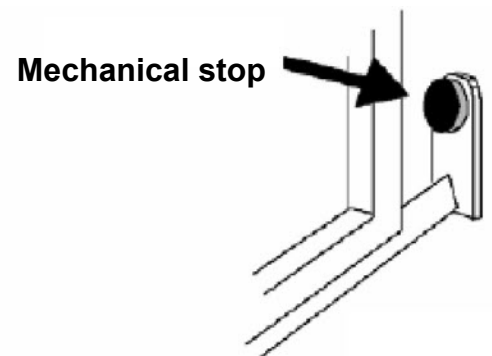
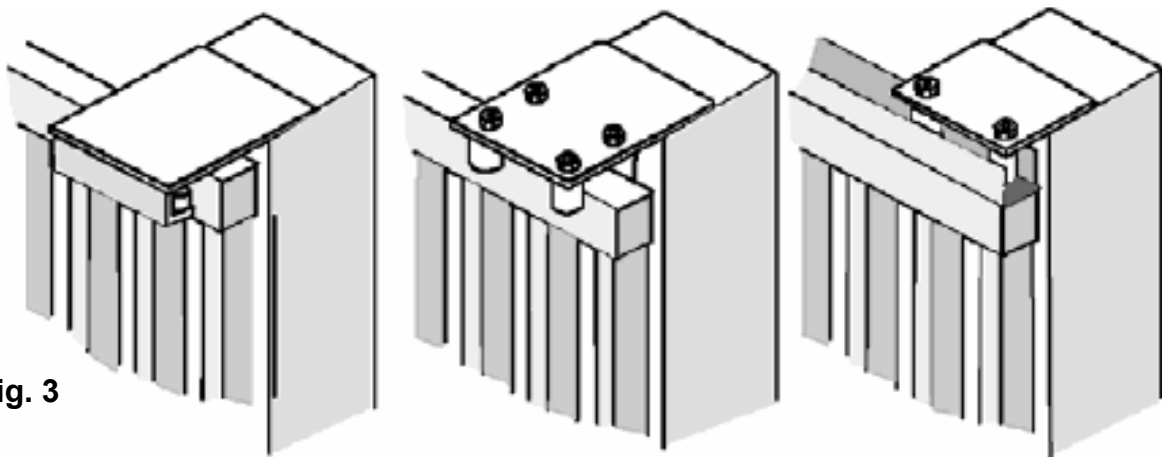
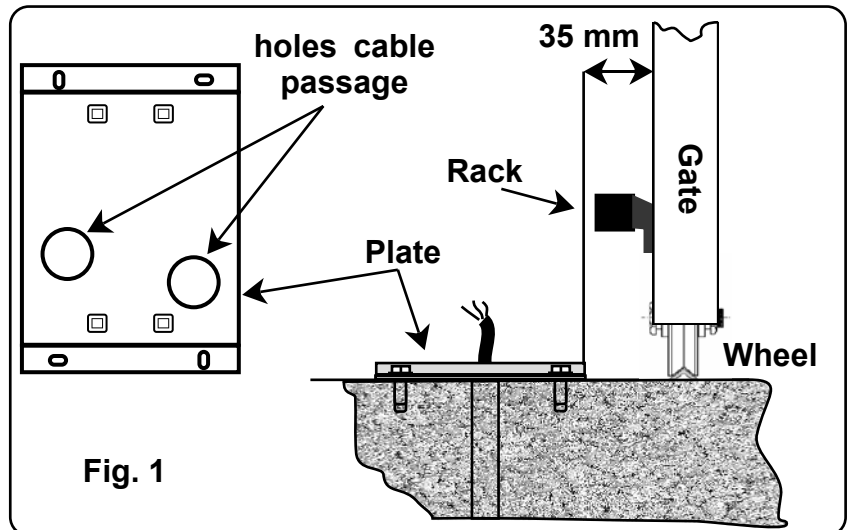

Fig. 2
Fig. 3
Fig. 1
- Also check that the runner on the ground (**Fig. 1**) is not deformed, is perfectly level and that the mechanical stop is present on opening (**Fig. 2**) in order to **prevent** the gate from going beyond the upper runners (**Fig. 3**)
- Check the upper runner (see **Fig. 3**) is firm and the gate slides freely.
Position the plate provided **(Fig. 1)** 35 mm/MAX from the edge of the gate and perfectly square at an angle of 90°.